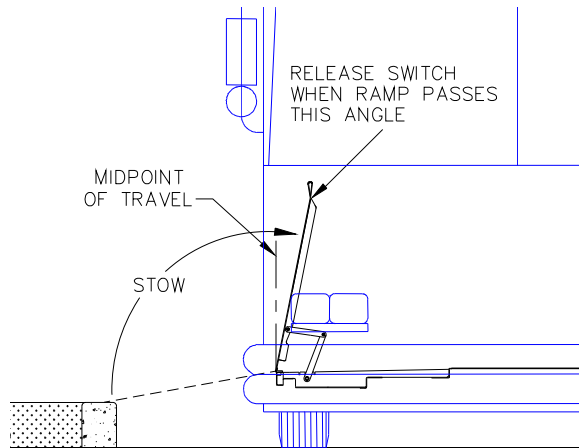

FIGURE 3-3: RAMP MIDPOINT DURING STOW
- 1) Refer to **Figure 3-3**. Press and hold the STOW button. Hold button until ramp has passed through its midpoint of travel (approximately vertical), and then release. Hydraulic pump motor stops automatically when ramp passes midpoint; ramp will continue to stow without assistance.